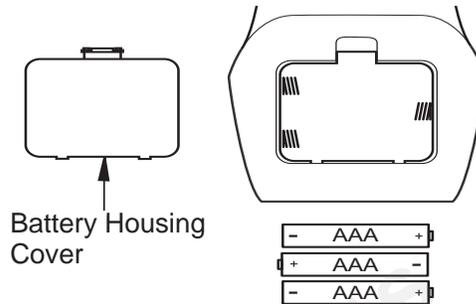

Figure 20 - Battery Install Hand-Held Remote Control
- Remove battery housing cover from back of hand-held remote (see **Figure 20**).